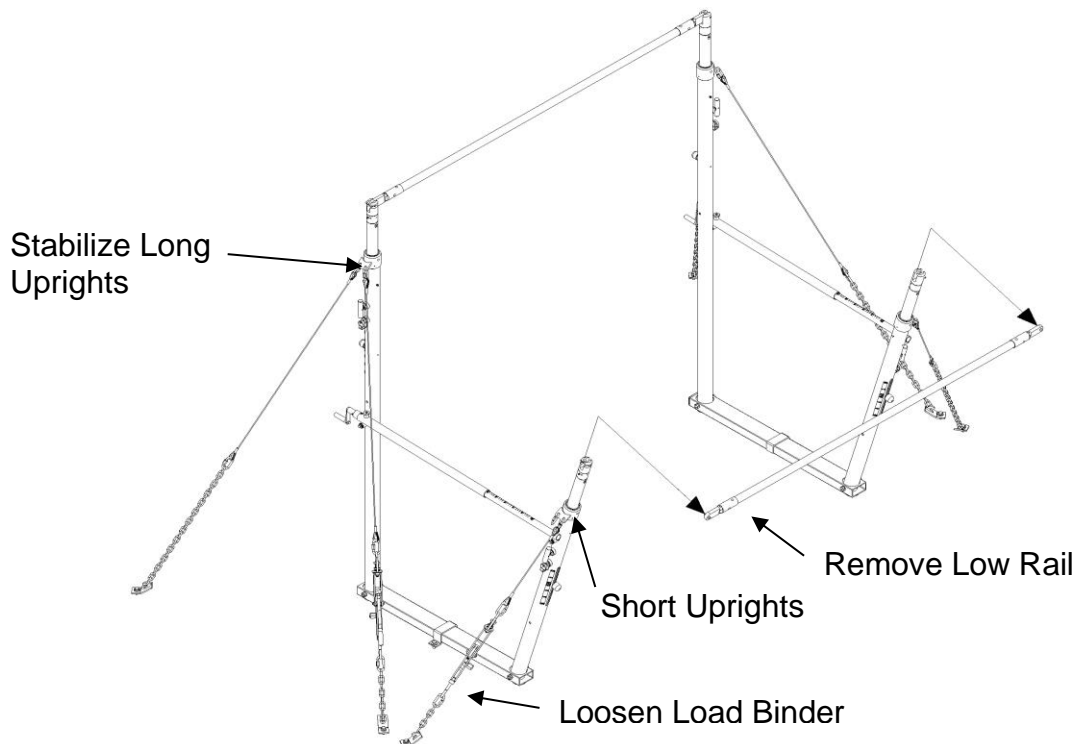

Figure 2
1. Loosen the tension on the short upright load binder. (See Fig. 2 below)